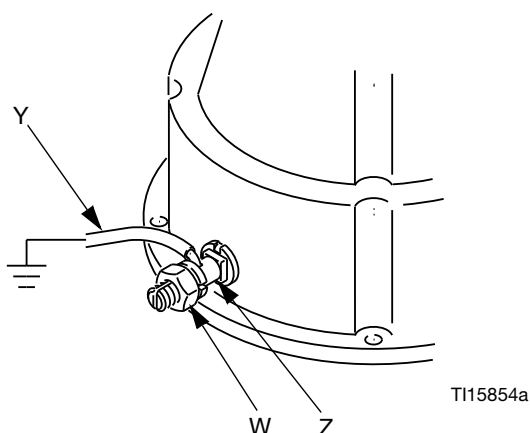

FIG. 2 Ground Wire
Pump: use a ground wire and clamp (not included). See FIG. 2 Loosen the locknut (W) of the grounding lug (Z). Insert one end of the wire (Y) in the ground lug and tighten the locknut securely. Connect the ground clamp to a true earth ground. Order Part No. 237569, Ground Wire and Clamp.